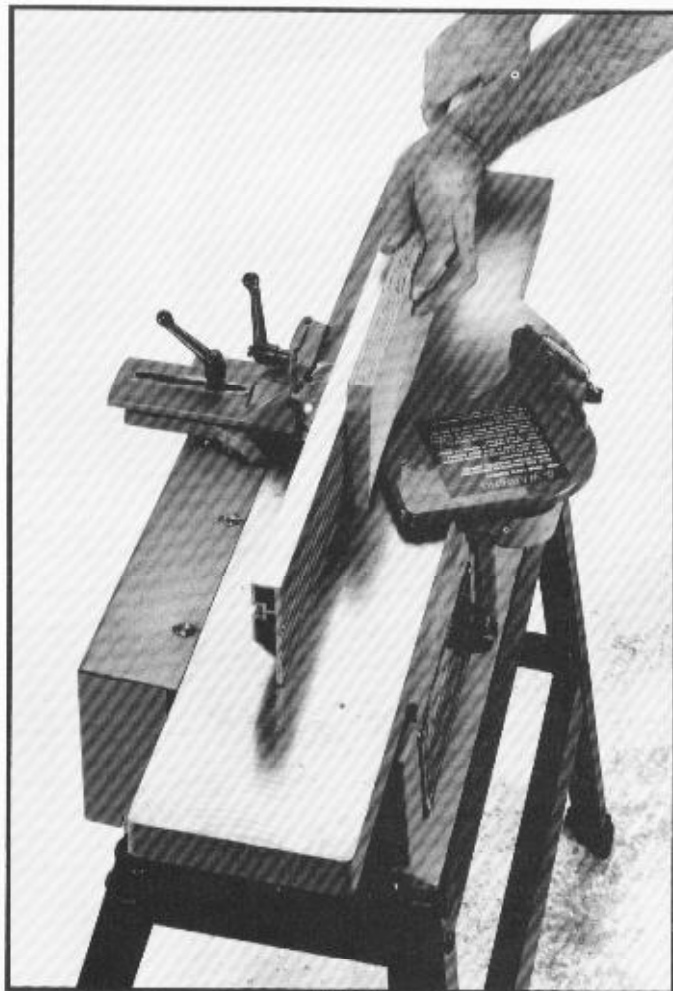

Fig. 1
1. **JOINTING OPERATIONS** - Jointing cuts or edge jointing are made to square an edge of a workpiece. The workpiece is positioned on the jointer with the narrow edge of the workpiece on the infeed table and the major flat surface of the workpiece against the fence, as shown in Fig. 1. The workpiece is moved from the infeed table, across the cutterhead to the outfeed table.